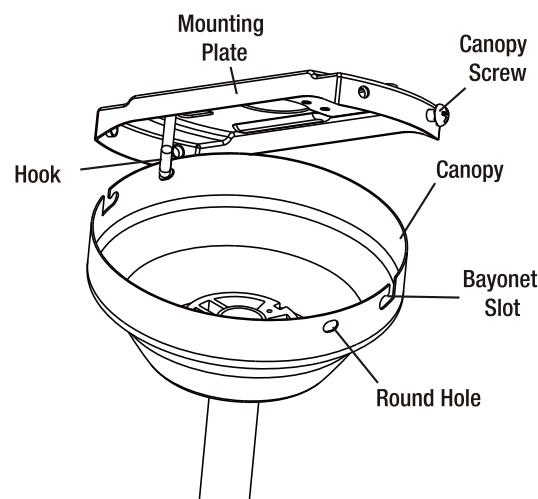

Figure 9
- Before making the electrical connections, engage one of the screw holes at the top of the ceiling canopy with the hook on the mounting plate (Figure 9).